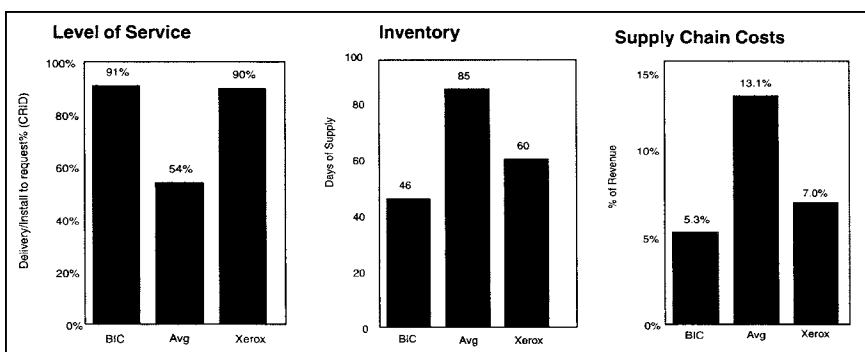

Figure I-1.1 Xerox Benchmarking Study
3. *Identify the best in class for that process.* Xerox benchmarked itself against 15 other companies in the areas of service, inventory, and supply chain costs (see Figure I-1.1). “What we found was that no single company is best in all three areas,” says Mike Wilding, customer supply assurance manager at Xerox. “We can tell from the research that we are not best in class, but we sure are close.”